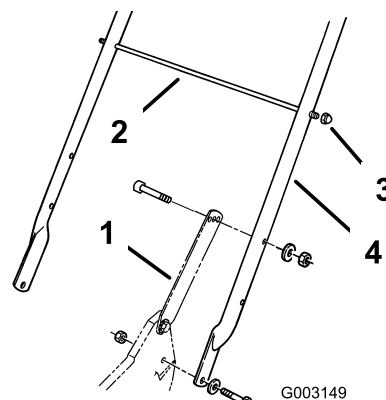

Figure 3
bolts (5/16 x 1-1/4 inches), washers, and thin locknuts (5/16 inch) (Figure 3).
2. Secure the handle latches to the handle with 2 bolts (5/16 x 1-1/2 inches), washers, and locknuts (5/16 inch) (Figure 3).
3. Slide the bag support rod through the second from the top mounting holes in the handle and secure each end with a cap locknut (Figure 3).